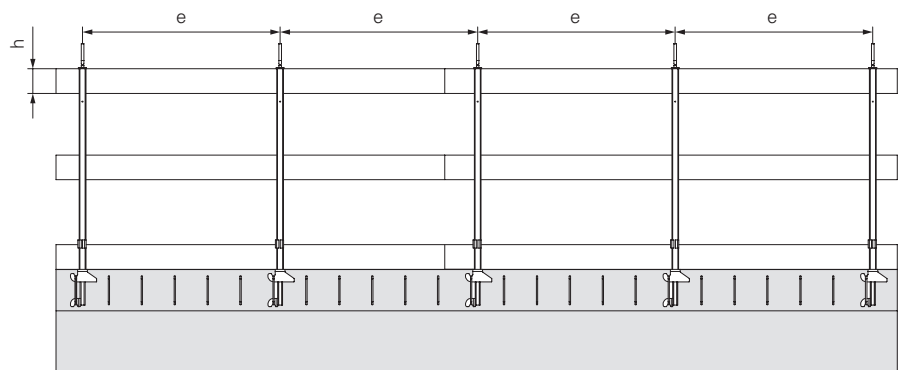

Fig. A2.04
* Values are valid only in compliance with the boundary conditions in Tab. A2.02 and Fig. A2.04